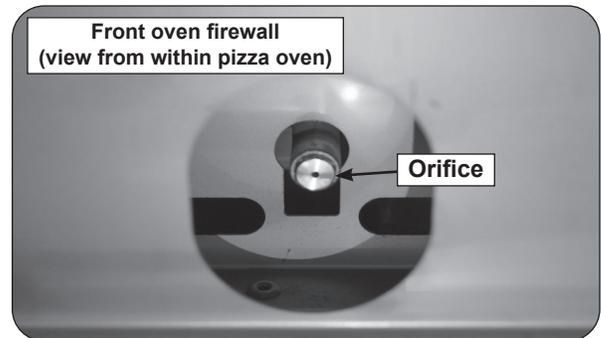

Fig. 2-3 Convert burner orifices
2. Use a $\frac{3}{8}$ " hex nut driver to remove the exposed orifices (See Fig. 2-3).